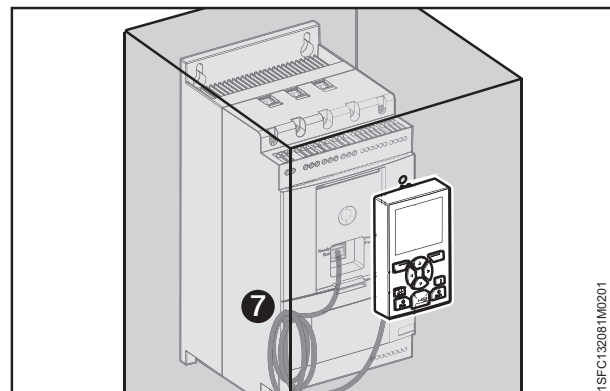

Figure 4.12
- Make sure that the network cable is properly inserted into the 2 ports. Prevent the rest of the cable to get caught between the door, see **7** in **Figure 4.12**. Close the door of the enclosure and set the operation voltage switch to ON. Make sure that the external HMI works.